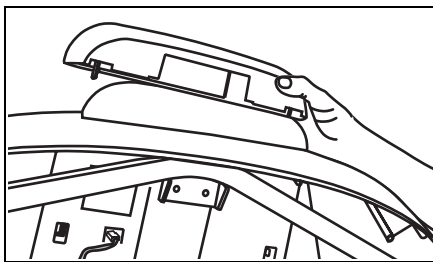

Figure 12: Remove entertainment option cover
5. Remove the entertainment option cover. See Figure 12. Tabs exist on either side of the cover. Press in on the tabs and the cover pops off. You can discard the entertainment option cover.